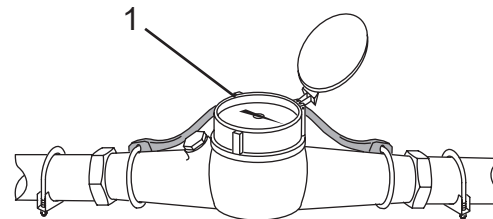

Figure 109
2. Reset the display by turning the collar (Figure 109, Item 1) counterclockwise until the pointer is aligned with "0".